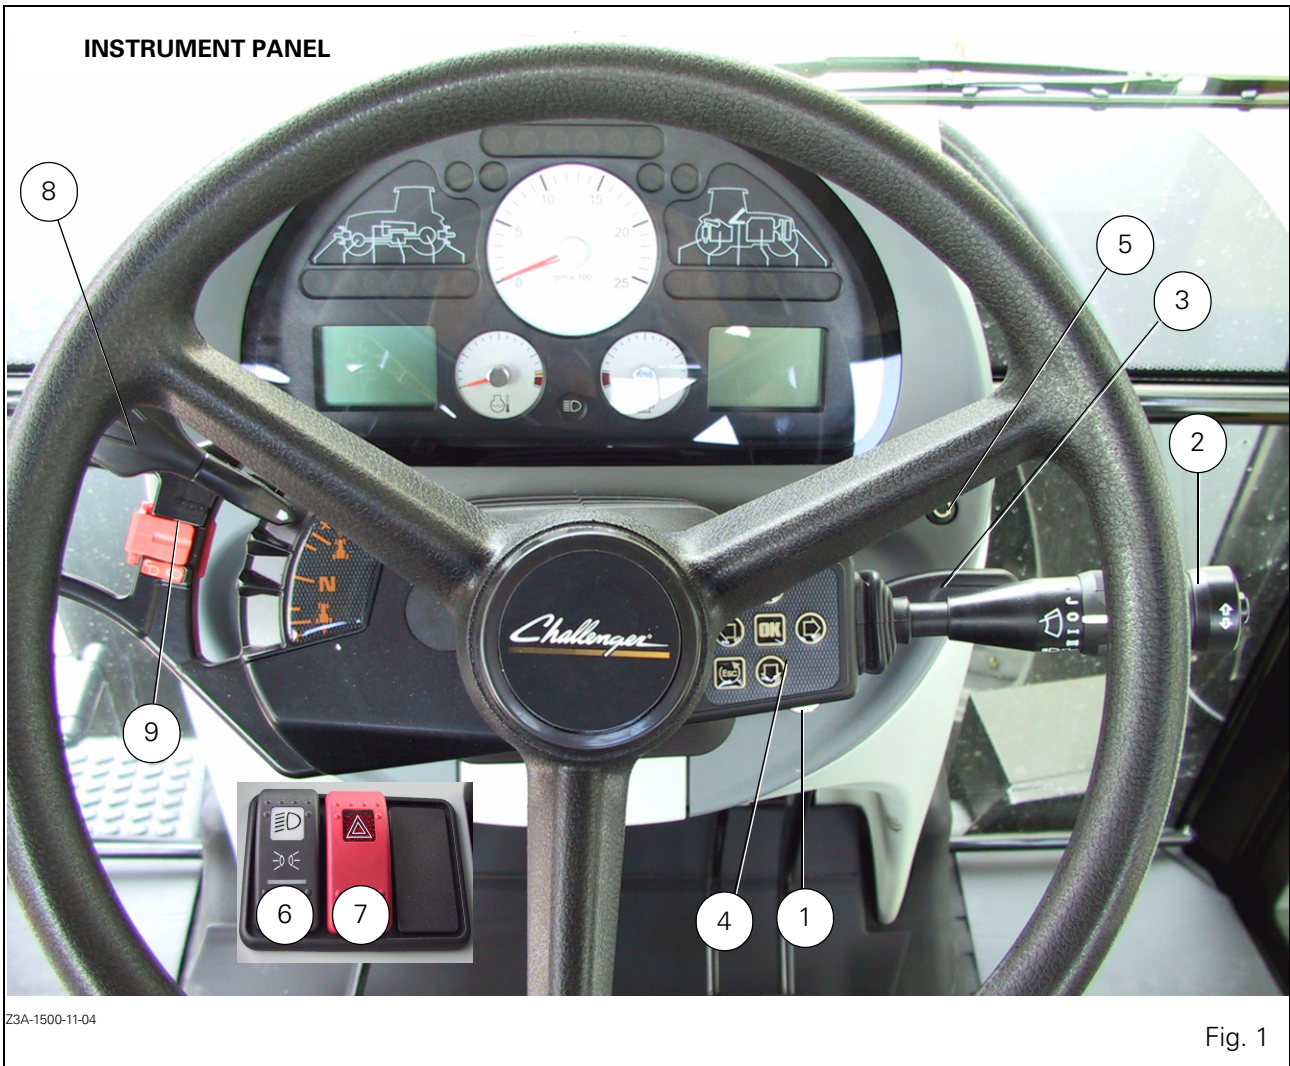

Fig. 1
3.1 - INSTRUMENT PANEL (FIG. 1)	3.5
3.1 - INSTRUMENT PANEL (FIG. 1)